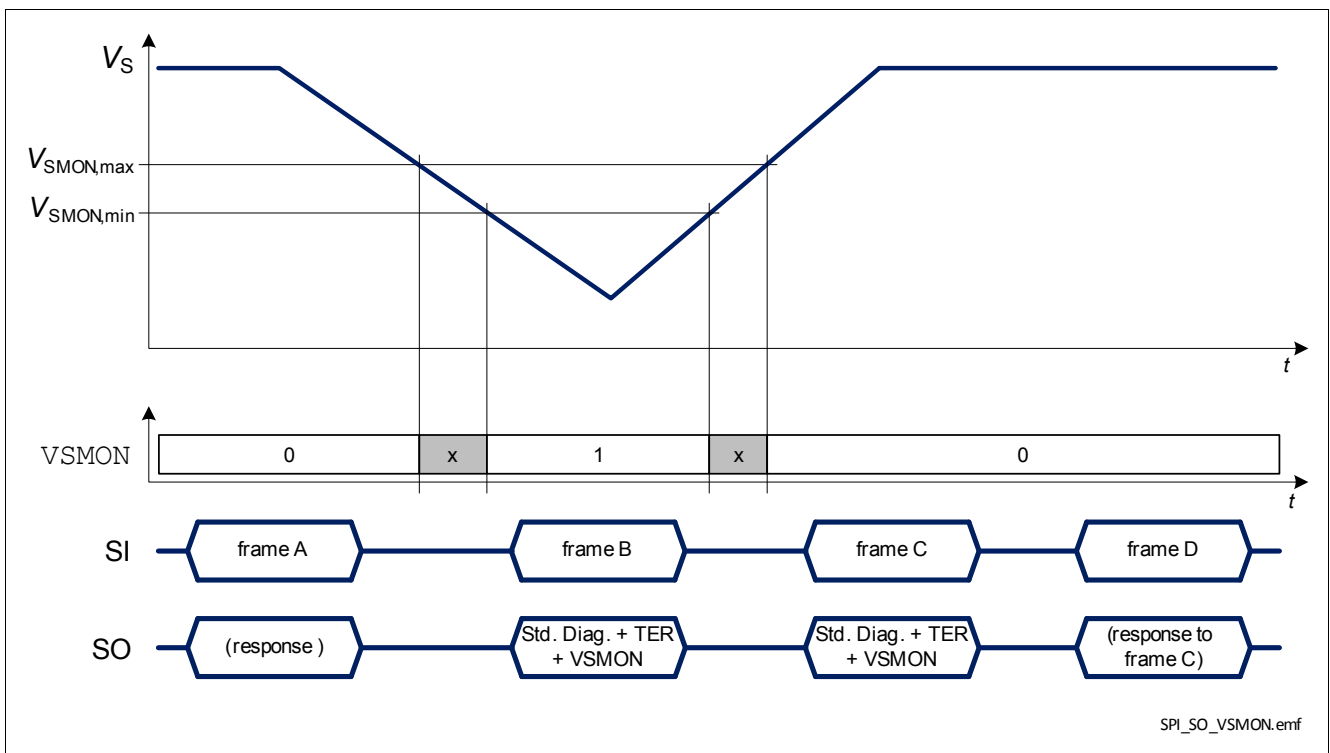

Figure 34 BTS54040-LBB response in case of a negative battery voltage transient
- when $V_S < V_{SMON}$ and $\text{DCR.MUX} \neq 111_B$, as shown in Figure 34